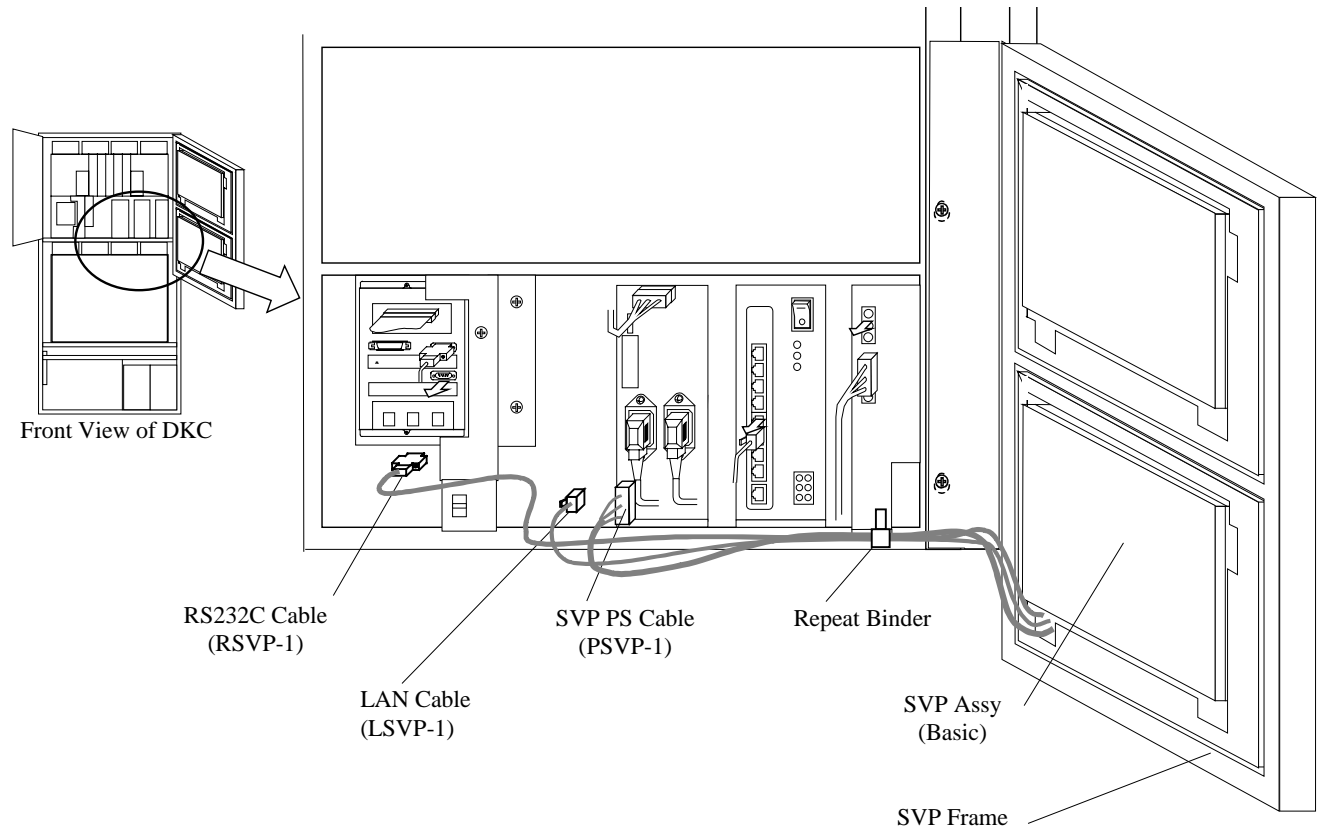

Fig. T7.1-7 Removal of Cables
- Attach the SVP Assy cables to the RS CON PCB, HUB BOX and CON PLATE. And then close the repeat binder. (See Fig. T7.1-7 and T7.1-10.)
- c. Open the repeat binder and remove the cables. (See Fig. T7.1-7 [REP03-500].)
- c. Open the repeat binder and remove the cables. (See Fig. T7.1-7 [REP03-515].)